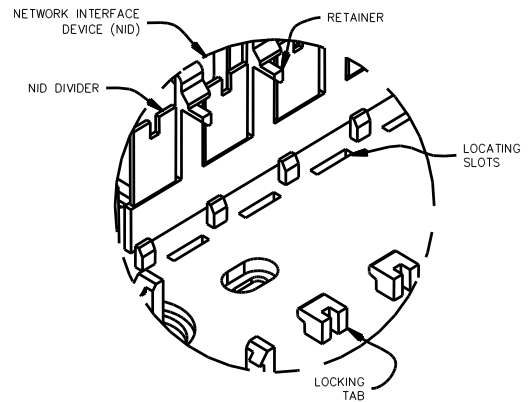

**Figure 1**
1. A Customer Bridge Module (CBM) maintains a constant direct connection between customer and central office service provider. The CBM is equipped with a customer test jack (See Figure 1). Customer can insert the RJ-11 plug from a working telephone into this test jack to assure a signal is received from the central office. This is the only time the customer is disengaged from the central office.
1. Four independent telephone pairs can be connected to a single CBM module. The customer has the option of putting a #10 Master lock in the customer lock hasp (See Figure 1).
2. When installing the first pair of customer telephone wires, always begin with the bottom terminating rockers (See Figure 1).
7. Lift all CBM rockers to the open position as shown (See Figure 1).